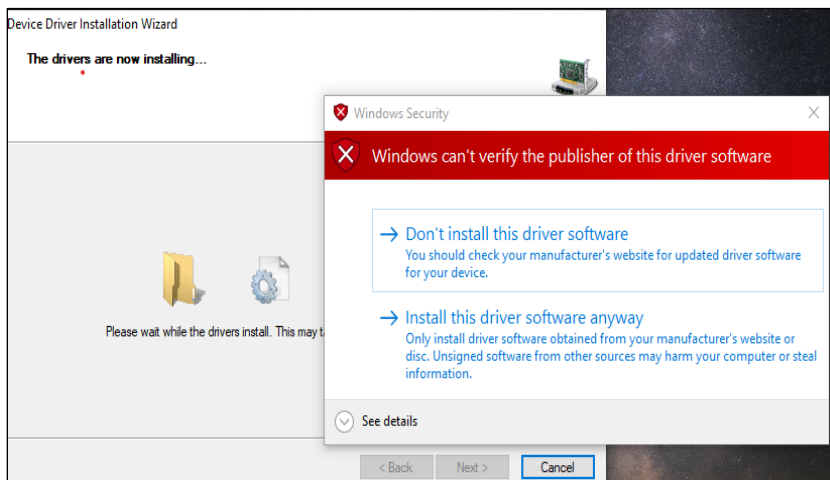

Figure 5.33. Windows Security in Driver Installation
9. If a Windows Security prompt is received, select **Install this driver software anyway** as shown in Figure 5.33.